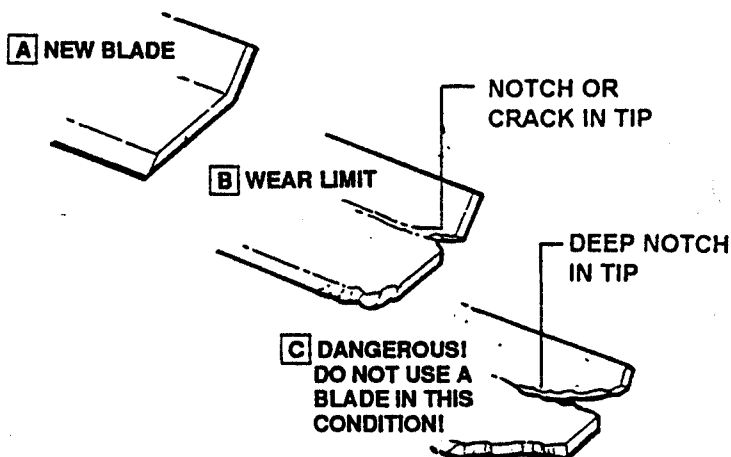

FIGURE 3.5
1. Inspect blade frequently for signs of wear or damage. See Figure 3.5.
2. Refer to Figure 3.5 to determine blade condition. Replace the blade if it is badly chipped, bent, noticeably out of balance or has cracks or notch in either tip as shown in example B above. Replace with new blade Part No. 2-6407.